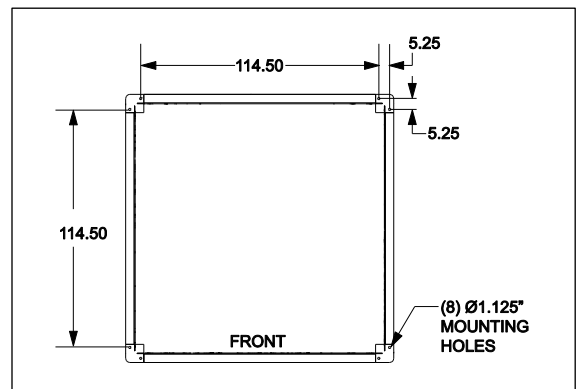

Figure 7 Mounting Hole Dimensions (in inches) Viewed from Above
- Figure 7 shows the required conduit openings and mounting hole dimensions for entering/mounting the bottom of the WIC. Use these dimensions when designing the pad.